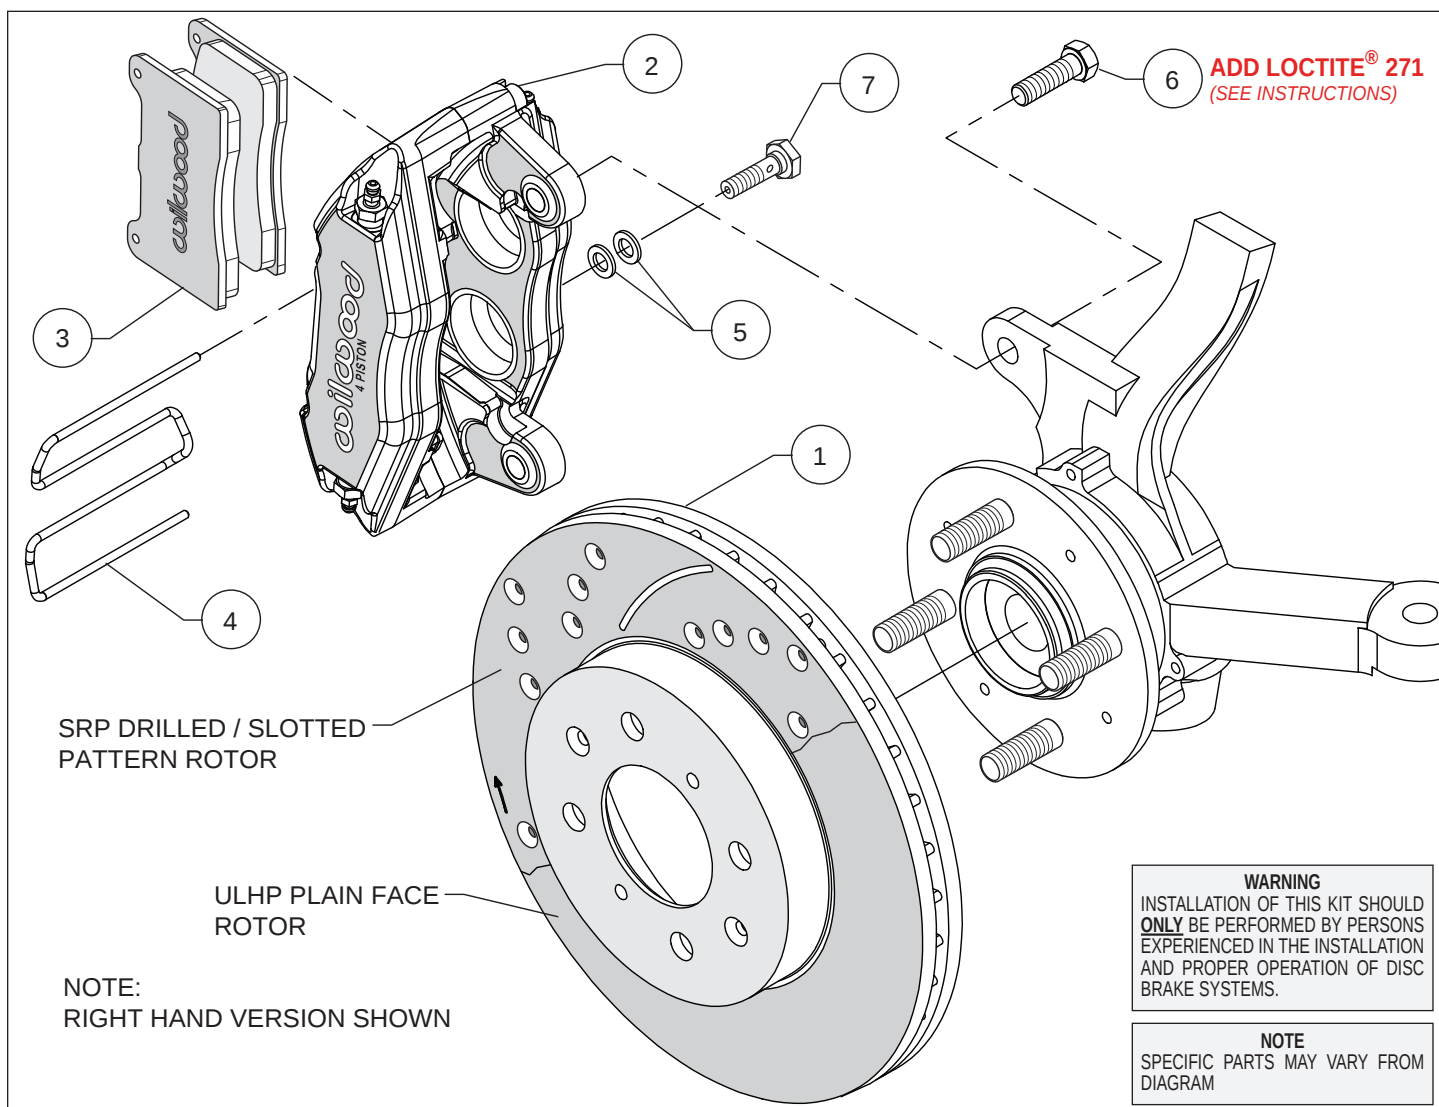

Figure 1. Typical Installation Configuration
Assembly Instructions (numbers in parenthesis refer to the parts list and Figure 1 on the preceding page):
• Slide the hat/rotor (1) onto the axle hub. **NOTE:** The hat must fit flush against the axle hub flange or excessive rotor run out may result. Install three lug nuts (finger tight) to keep the hat/rotor in place while continuing with the installation.
• Mount the new Wilwood caliper (2) onto the axle hub caliper mounting bosses using bolts (6) as shown in Figure 1. Apply red Loctite® 271 to the bolt threads and torque to 60 ft-lbs.
- Install the disc brake pads (3) into the caliper, with the friction material facing the rotor (1), and secure in place using pad clip retainer (4), Figure 1.
- Connect the OE rubber hose to the Wilwood caliper (2) using new crush washers (5) and banjo bolts (7). The preferred method is to use steel adapter fittings at the caliper, either straight, 45 or 90 degree and enough steel braided line to allow for full suspension travel and turning radius, lock to lock. **Carefully route hoses to prevent contact with moving suspension, brake or wheel components.** It is the installer's responsibility to ensure that all fittings and hoses are the correct size and length, to ensure proper sealing and that they will not be subject to crimping, strain and abrasion from vibration or interference with suspension components, brake rotor or wheel.